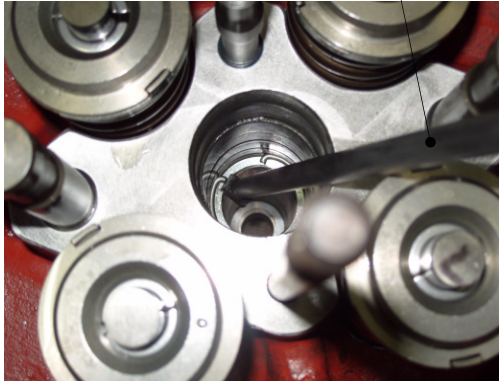

Fig. 1 Locking Ring removal tool
- Mount the tool as shown in fig 1.